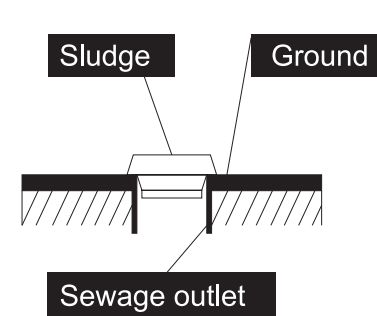

Figure 1
1. Put the sludge on the sewage outlet and seal it as Figure 1.